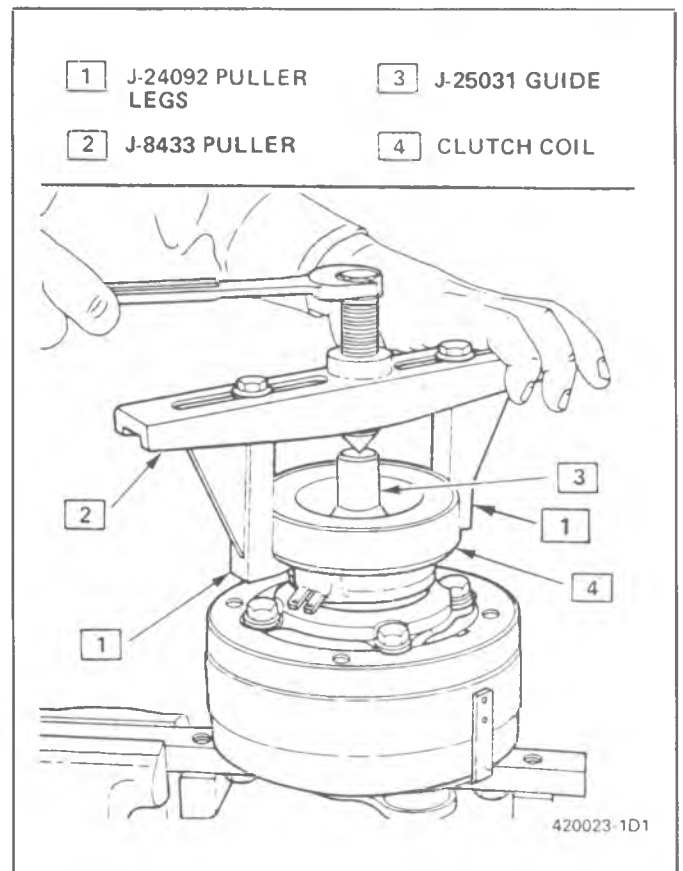

Fig. 1D1-23 Removing Poly-Groove Clutch Coil
- Assemble the Clutch Coil, Pulley Rim and the Clutch Rotor and Bearing assembly as shown in Fig. 1D1-25. Use new screws and special lock washers and apply sealer (Loctite RC-75, Loctite 601, or equivalent) to screw threads but do not lock the screws in place.
- Place the assembly on the neck of the Front Head and seat into place using Rotor & Bearing Installer J-26271-A (Fig. 1D1-19). Before fully seating the assembly on the Front Head, be sure the clutch coil terminals are in the proper location in relation to the compressor and that the three protrusions on the rear of the clutch coil align with the locator holes in the Front Head.